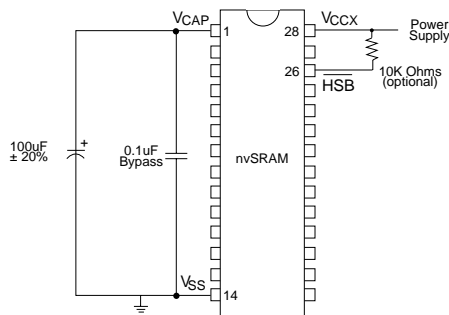

Figure 1
*Figure 1* shows the proper connection of capacitors for automatic store operation. The charge storage capacitor should have a capacity of at least 100 $\mu$ F ( $\pm 20\%$ ) at 6V. Each STK12C68-M must have its own 100 $\mu$ F capacitor. Each STK12C68-M *must* have a high quality, high frequency bypass capacitor of 0.1 $\mu$ F connected between  $V_{CAP}$  and  $V_{SS}$ , using leads and traces that are as short as possible.